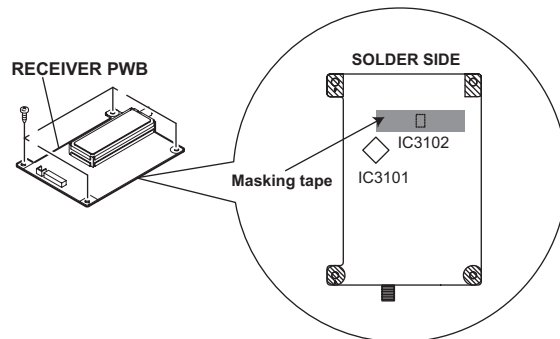

Fig.1
- (1) Prior to disassembly, unplug the power cord from the AC outlet without fail. (Turn the power "off".)
- (2) Make sure that the **RECEIVER PWB: IC3102** is completely covered with black masking tape. (Fig.1)
- (3) Make sure to remove the masking of **RECEIVER PWB: IC3102** when attaching the REAR COVER.
- (4) Do not turn the power on until the REAR COVER is attached properly, after the masking is removed.